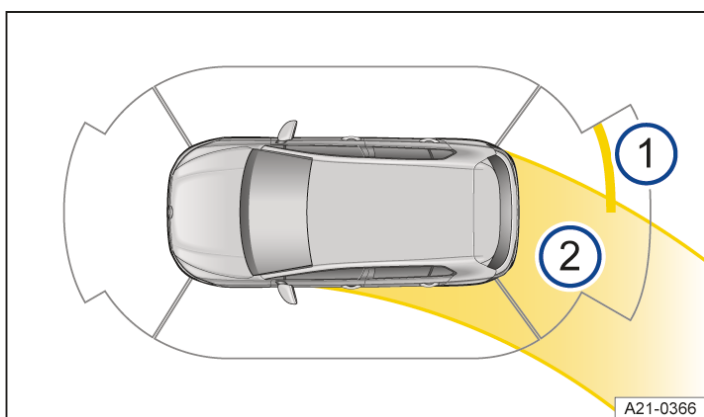

Fig. 1 Infotainment system: Park Distance Control display (illustration).
Park Distance Control warns about a collision by means of colour segments on the Infotainment system screen and acoustic signals → Fig. 1, → ①.